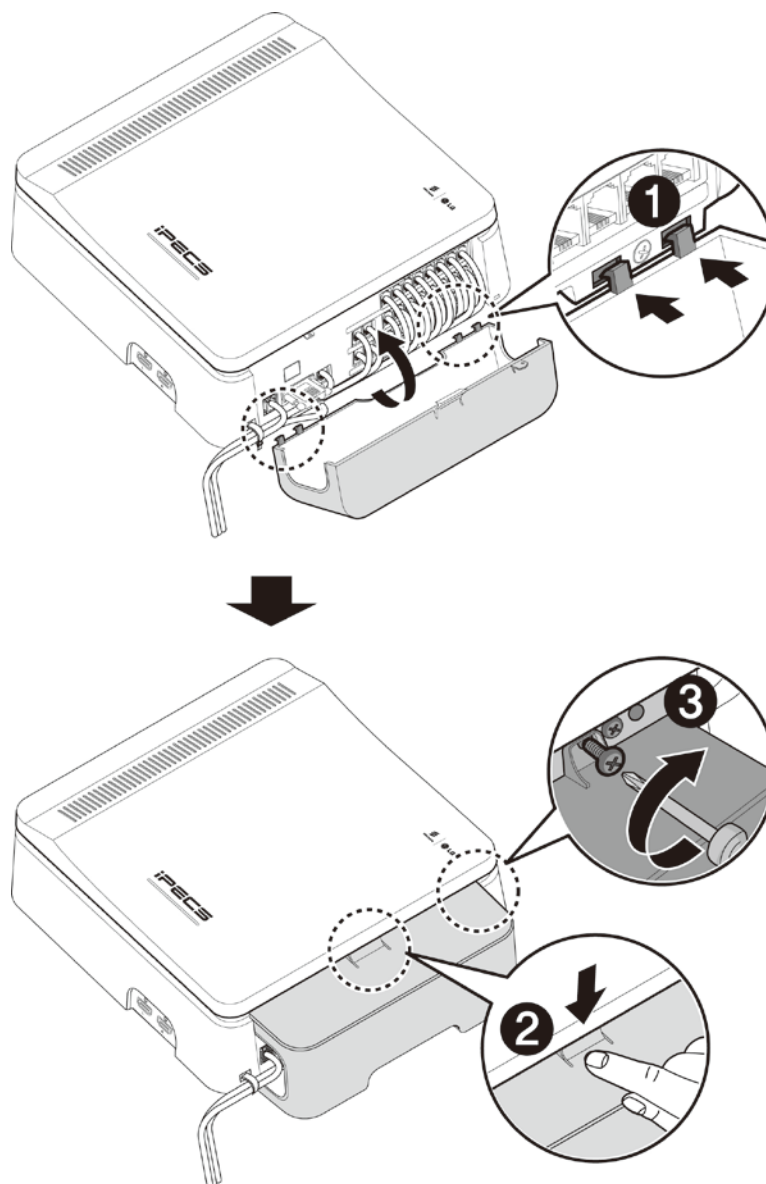

**Figure 6.9.2-1 Rack Mount Wiring**
3. Using the supplied cable ties, tie all wiring to the slot at the bottom-right side of the KSUs as shown in Figure 6.9.2-1.